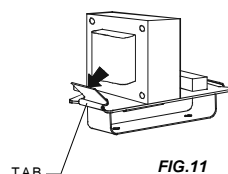

FIG. 11
2. Push down on the spring tab and release the plate. (Fig.11, 12)